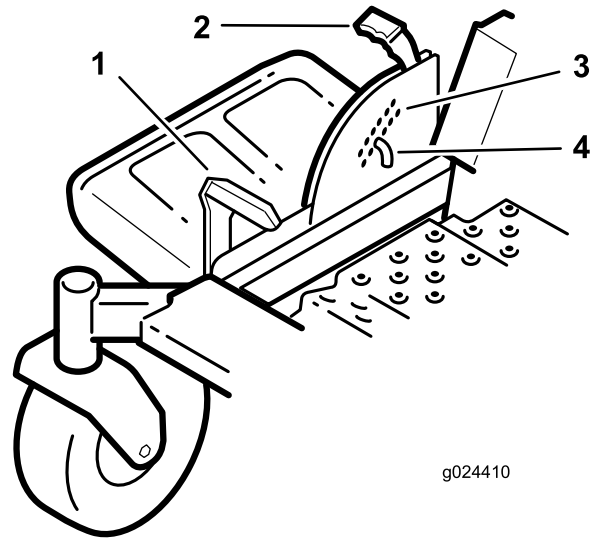

Figure 22
1. Push on the deck lift pedal with your foot and raise the mower deck to the transport lock position (also the 114 mm (4-1/2 inch) cutting height position) (Figure 22).
2. To adjust, remove the pin from the height-of-cut bracket (Figure 22).
3. Select a hole in the height-of-cut system corresponding to the height-of-cut desired and insert the pin (Figure 22).